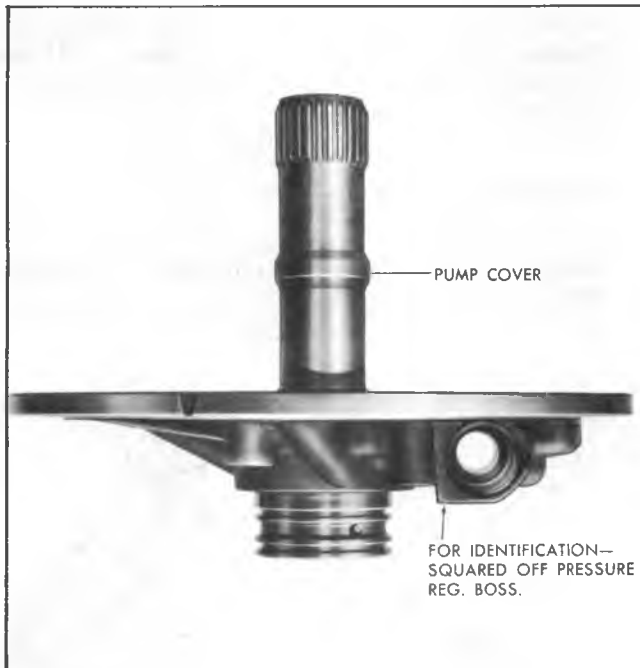

Fig. 64T--Pressure Regulator Valve Identification
**NOTE:** A solid type pressure regulator valve must only be used in a pump cover with a squared pressure regulator boss. See figure 64T. A pressure regulator valve with oil holes and orifice cup plug may be used to service either type pump cover.